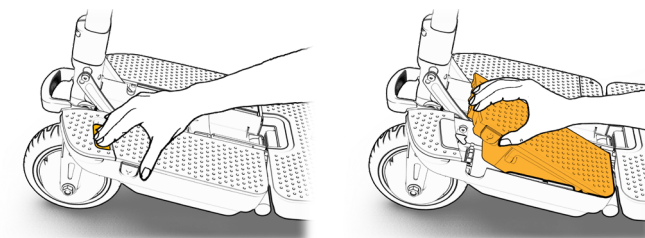

Figure 19
To remove the battery from ATTO, press the release button (1) and pull the battery out (2) (see Figure 19).